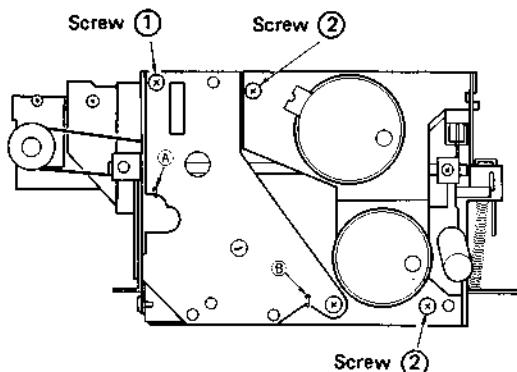

Fig. 6
- 1) Remove the Inter connect P.C. Board and play solenoid as described in procedure 2 above, and then take off 2 springs at points Ⓐ and Ⓑ shown in Fig. 6.
- 2) To remove the flywheel, undo 2 screws ① shown in Fig. 6.
- 2) To remove the motor holder, undo 2 screws ② shown in Fig. 6.